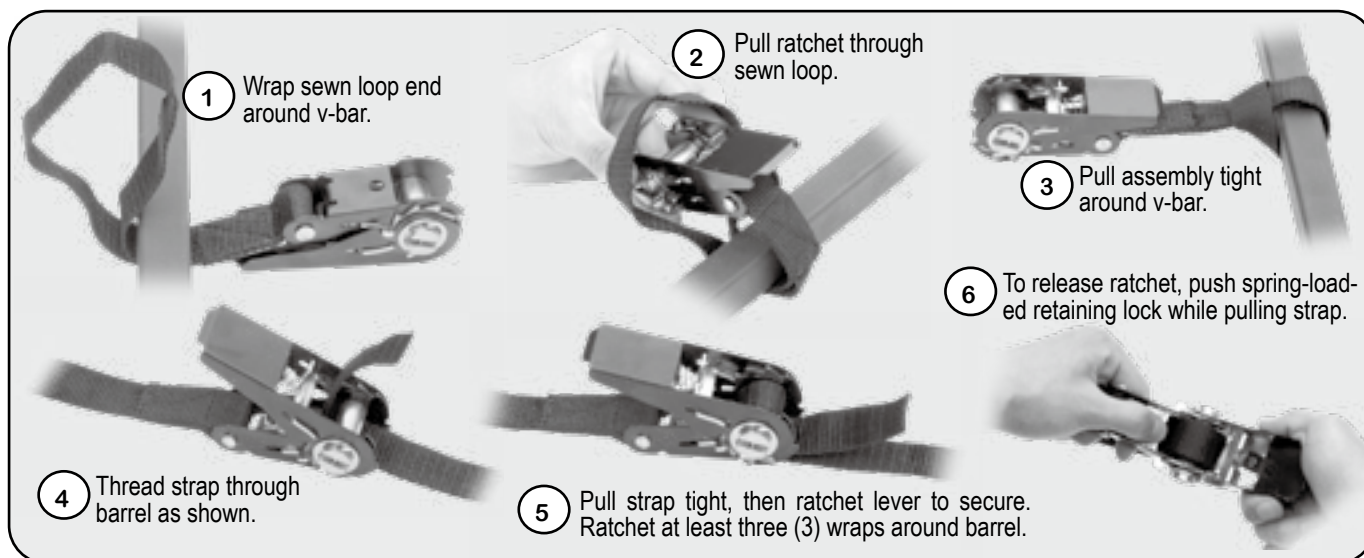

FIGURE 4: RATCHET STRAP INSTALLATION AND THREADING (INSTALLATION SITE MAY VARY)
STEP 4: Locate the looped ratchet strap (M) (refer to Figure 1). Install the looped end(s) of the ratchet strap assembly to each side of the v-bar as shown in Figure 10. For installation and threading instructions refer to Figure 4.
**Note:** Review, understand, and follow all looped ratchet strap (M) instructions for proper threading (refer to Figure 4) prior to leaving the ground to secure the looped ratchet strap (M). Check to insure all ladder sections are secured with quick pins (K) in place and closed. Make certain the ground is firm and level under the bottom ladder section, and all 8’/16’ stabilizing ropes (O&N) and the adjustable support bar assembly (P) is secured firmly against the tree.